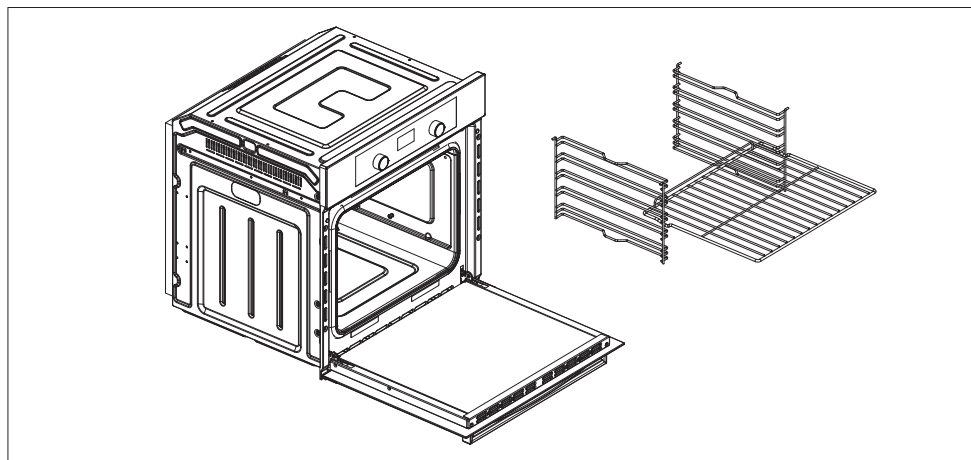

Figure 2.
- Remove the side racks (see section below and Fig.2)
- Finally, re-fit the side racks (See below and Fig.2)
- Now, shutting the door slightly, you can lift it out by pulling out the hooks "A" as shown in figure 2.